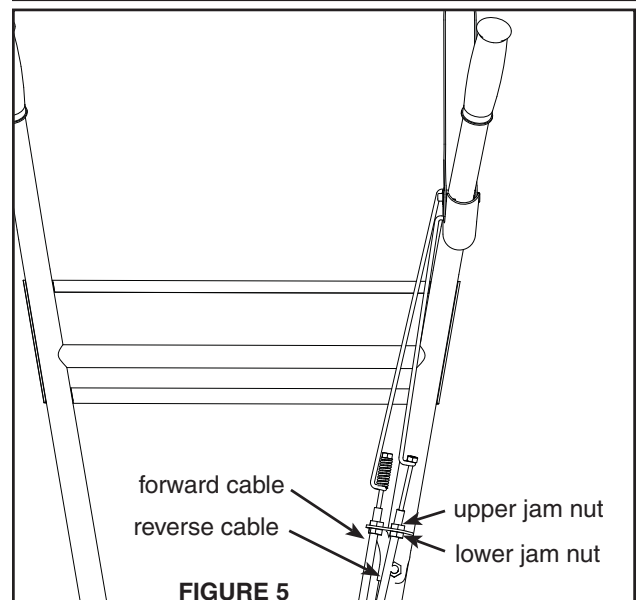

FIGURE 5
**To increase belt tension:** (SEE FIGURE 5)